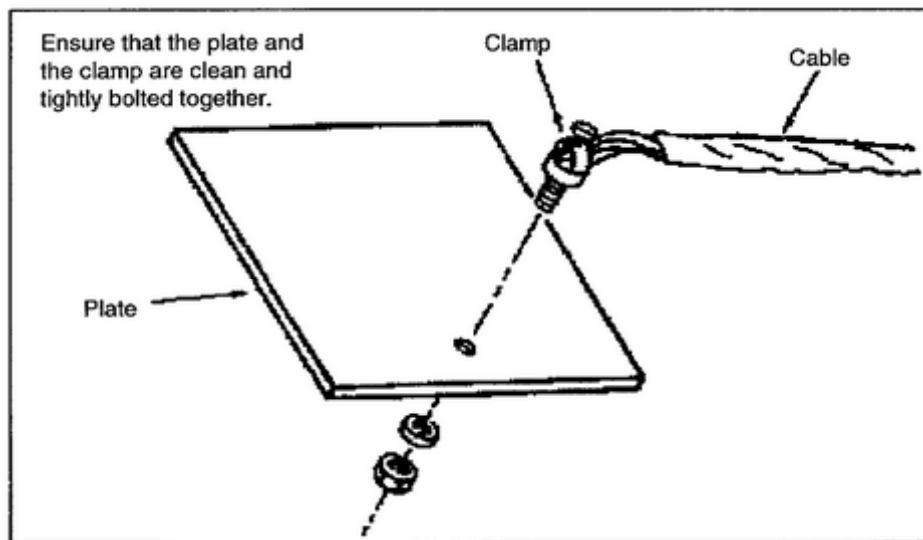

Figure 1-20. Conductor, clamp, and plate bolted together
- c. The copper conductor, the clamp, and the plate are bolted together (Figure 1-20).